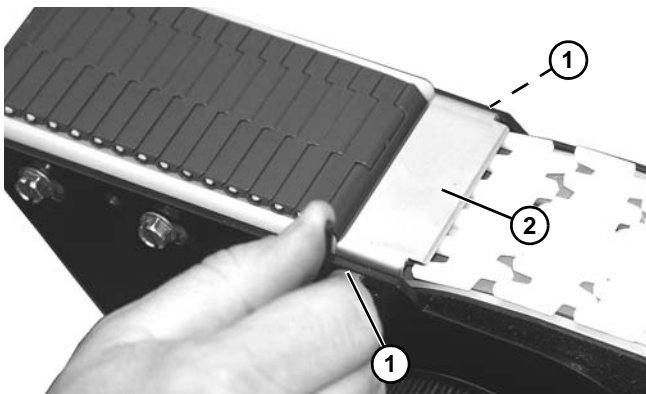

Figure 162
6. Remove two socket head screws (**Figure 162, item 1**) and pinch guard (**Figure 162, item 2**).